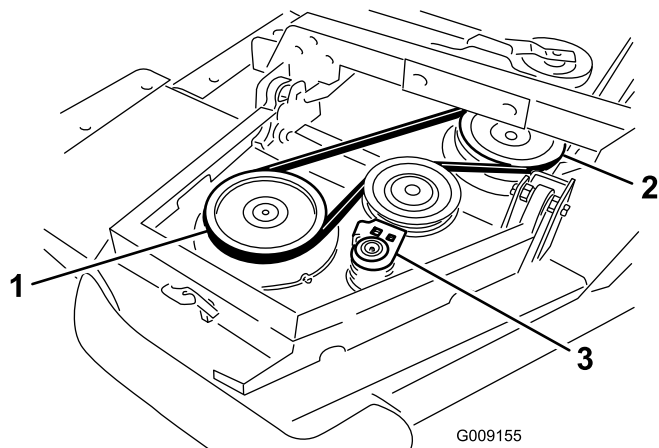

Figure 5
- Start the belt around the winglet spindle pulley and the front deck spindle pulley (Figure 5).
- Using a ratchet wrench or similar tool, move the idler pulley away from the pulleys (Figure 5).